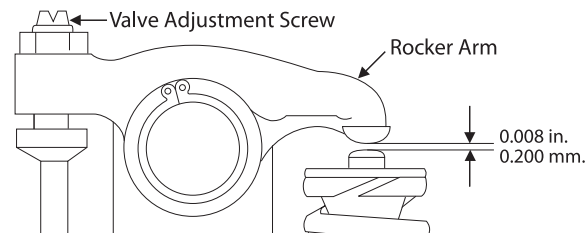

Figure 4: Valve adjustment
4. Loosen the lock nut and adjust the clearance between the rocker arm and valve guide of both the intake and exhaust valves with the adjustment screw (Figure 4). Clearance on both intake and exhaust valves should be 0.008 inches (0.2 mm).